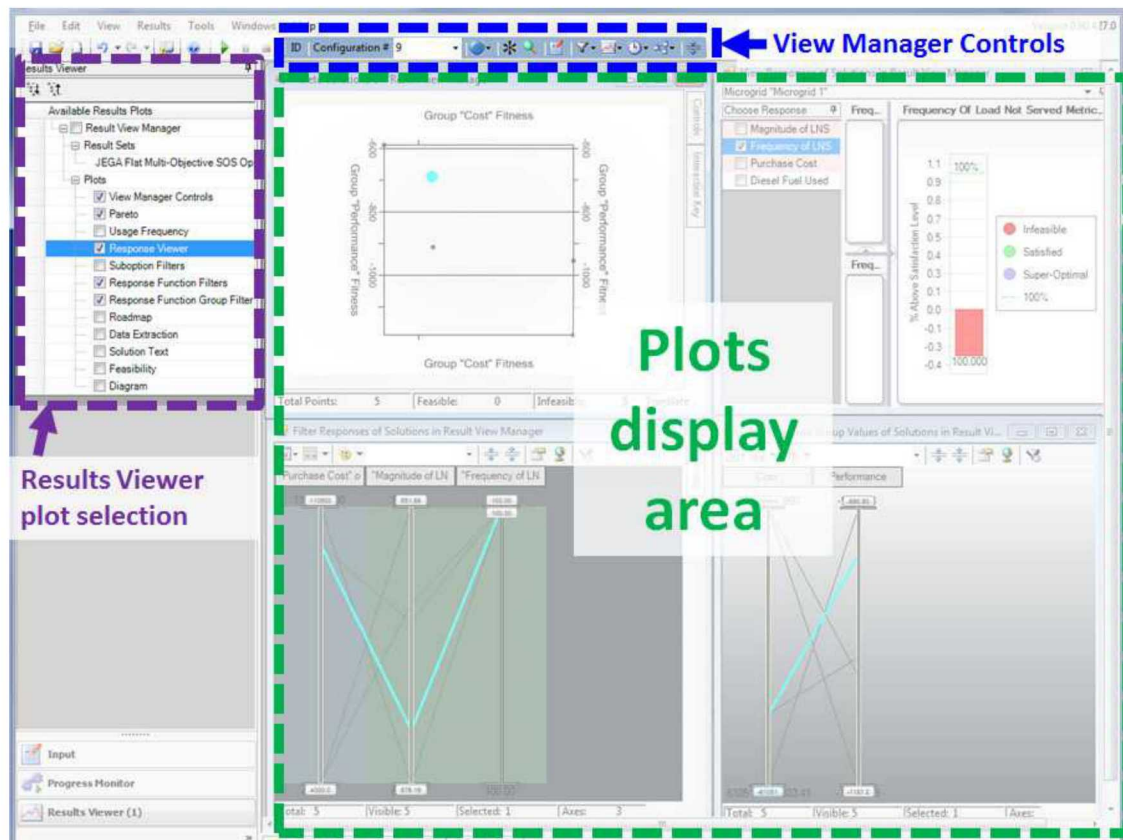

Figure 66. Results Viewer page overview.
- **Plot selection** menu (highlighted in purple in Figure 66) allows you to select which plots to display.
- **View Manager Controls** (highlighted in blue in Figure 66) toolbar allows you to see the currently selected configuration and filters being applied to the plots. This toolbar can be displayed/hidden via the plot selection menu. This is not applicable for MSC analyses.
- **Plots display area** (highlighted in green Figure 66) can display multiple plots at once. Plot windows can be resized and moved.
All of the plots are interactive and are linked. Selecting a configuration or filtering on one plot will cause the same configuration and filters to apply to all other plots. Since multiple plots can be open at the same time, this feature becomes useful in ensuring all plots are displaying information about the same data set. In Figure 66, you will see a bright blue dot or line in three of the plots, which represent the same configuration.